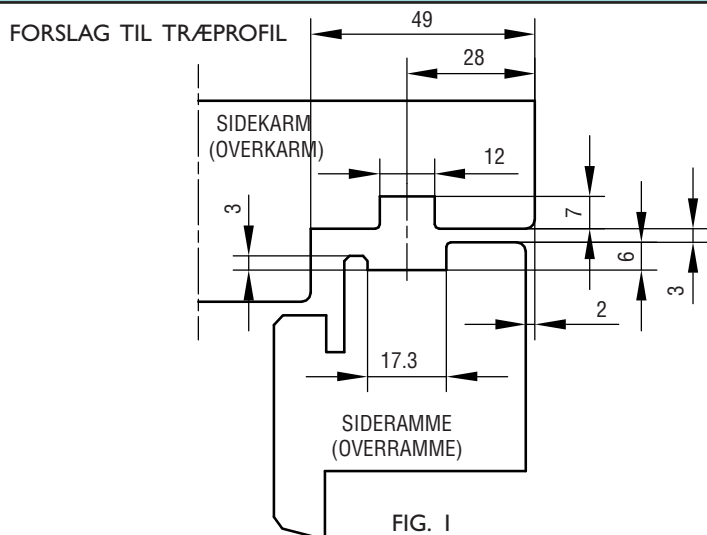

FIG. 1
1. 21167: SIDESTYKKERNE I KARM OG RAMME FORSYNES MED GENNEMGÅENDE NOTER, SE FIG. 1 + 2.
21178 & 88: SIDE- OG ØVERSTE KARM OG RAMME FORSYNES MED GENNEMGÅENDE NOTER, SE FIG. 1 + 2.
21167: HVIS DEN ØVERSTE RAMME ER FORSYNET MED SPOR, FIG. 1, ANBRINGES FØRST DE MEDSENDTE AFSTANDSSTYKKER YDERST I HVER SIDE AF OVERRAMMENS NOTER.